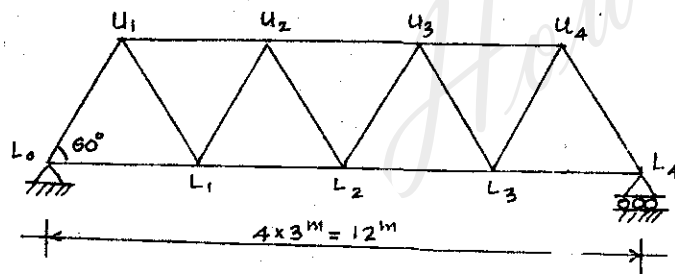

Fig.3.
- VI. For the Warren truss shown in fig.3, construct the influence line for the force in members L_1L_2 , U_2L_2 and U_2U_3 . Using the influence line diagram, determine the maximum forces in these members due to a moving load of 10 kN/m and greater than span. (20)